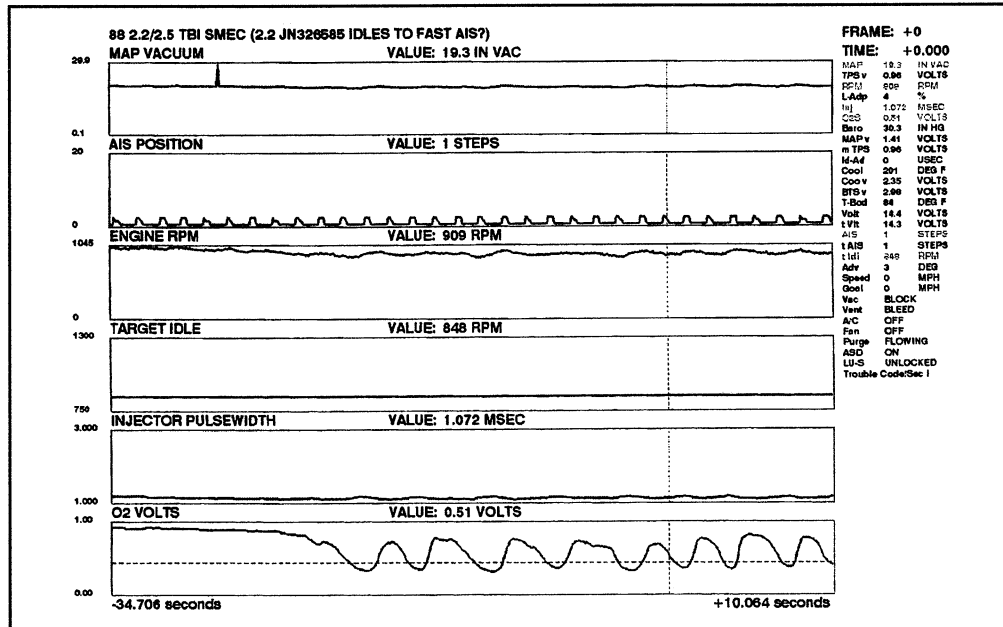

Fig. 15
- Vacuum leaks (Figures 15 & 16)